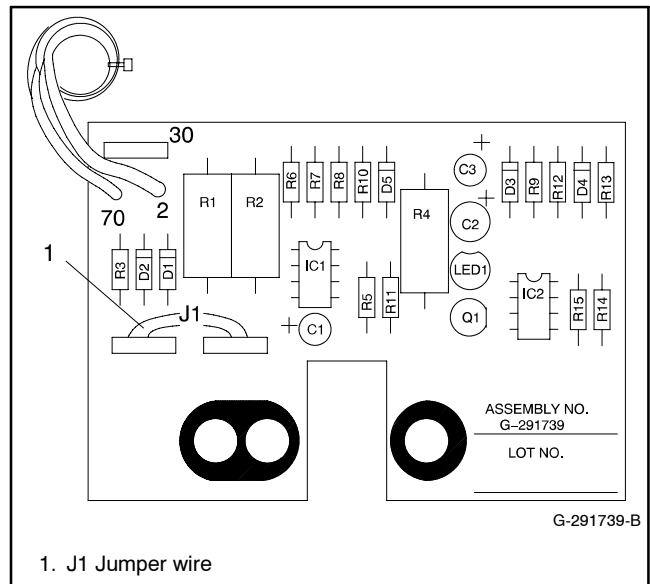

Figure 5-4 Overvoltage Shutdown Adjustment
3. Check for the J1 jumper on the overvoltage circuit board. Install the J1 jumper if the generator set is connected for 139/240 volts (low wye) or 277/480 volts (high wye) 3-phase, 4-wire, 60 Hz. Remove the J1 jumper for all other voltages. See Figure 5-4.